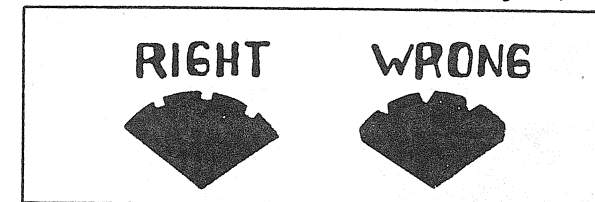

FIGURE 11
**NOTE:** The insulation between the segments can be cut down with a fine metal hack saw blade. The depth must not exceed 0.02" and the cut must form a "block" shape, not a "V" shape (Fig. 11).